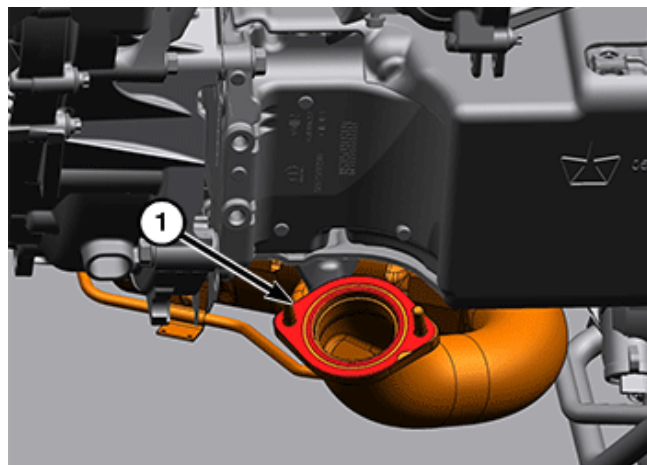

Figure 50 – Catalyst Flange Gasket
- k. Remove and **DISCARD** the crossunder pipe to catalyst flange gasket (1) (Figure 50).